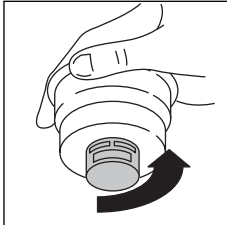

fig. 23
- Remove the crema enhancer cup (fig. 23) by unscrewing in the direction indicated by the arrow on the cap.